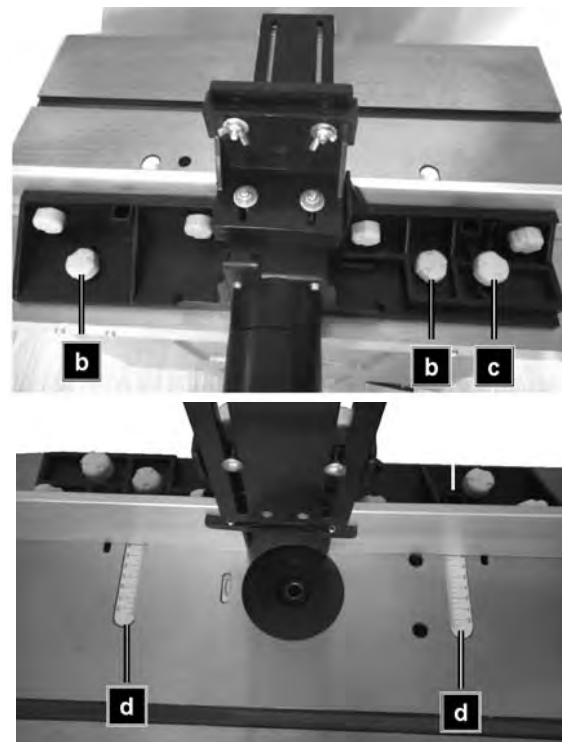

Fig. 17: Adjusting the fence
Loosen the two screws with plastic caps (item b, Fig. 17) on the back of the fence.
Step 1: Slide the fence to the required position. Use the scale (item d, Fig. 17) on the table to determine the distance between the fence and the centre of the cutter.
Step 2: Tighten the two screws with plastic heads (item b, Fig. 17) on the back to secure the fence in this position.
The stop rail must be adapted to the thinner material to ensure that the workpiece is guided smoothly and cut with precision. To do this, loosen the plastic screws (item b and item c, Fig. 17), move the fence forward by the dimension of the removed material and tighten the screws again.